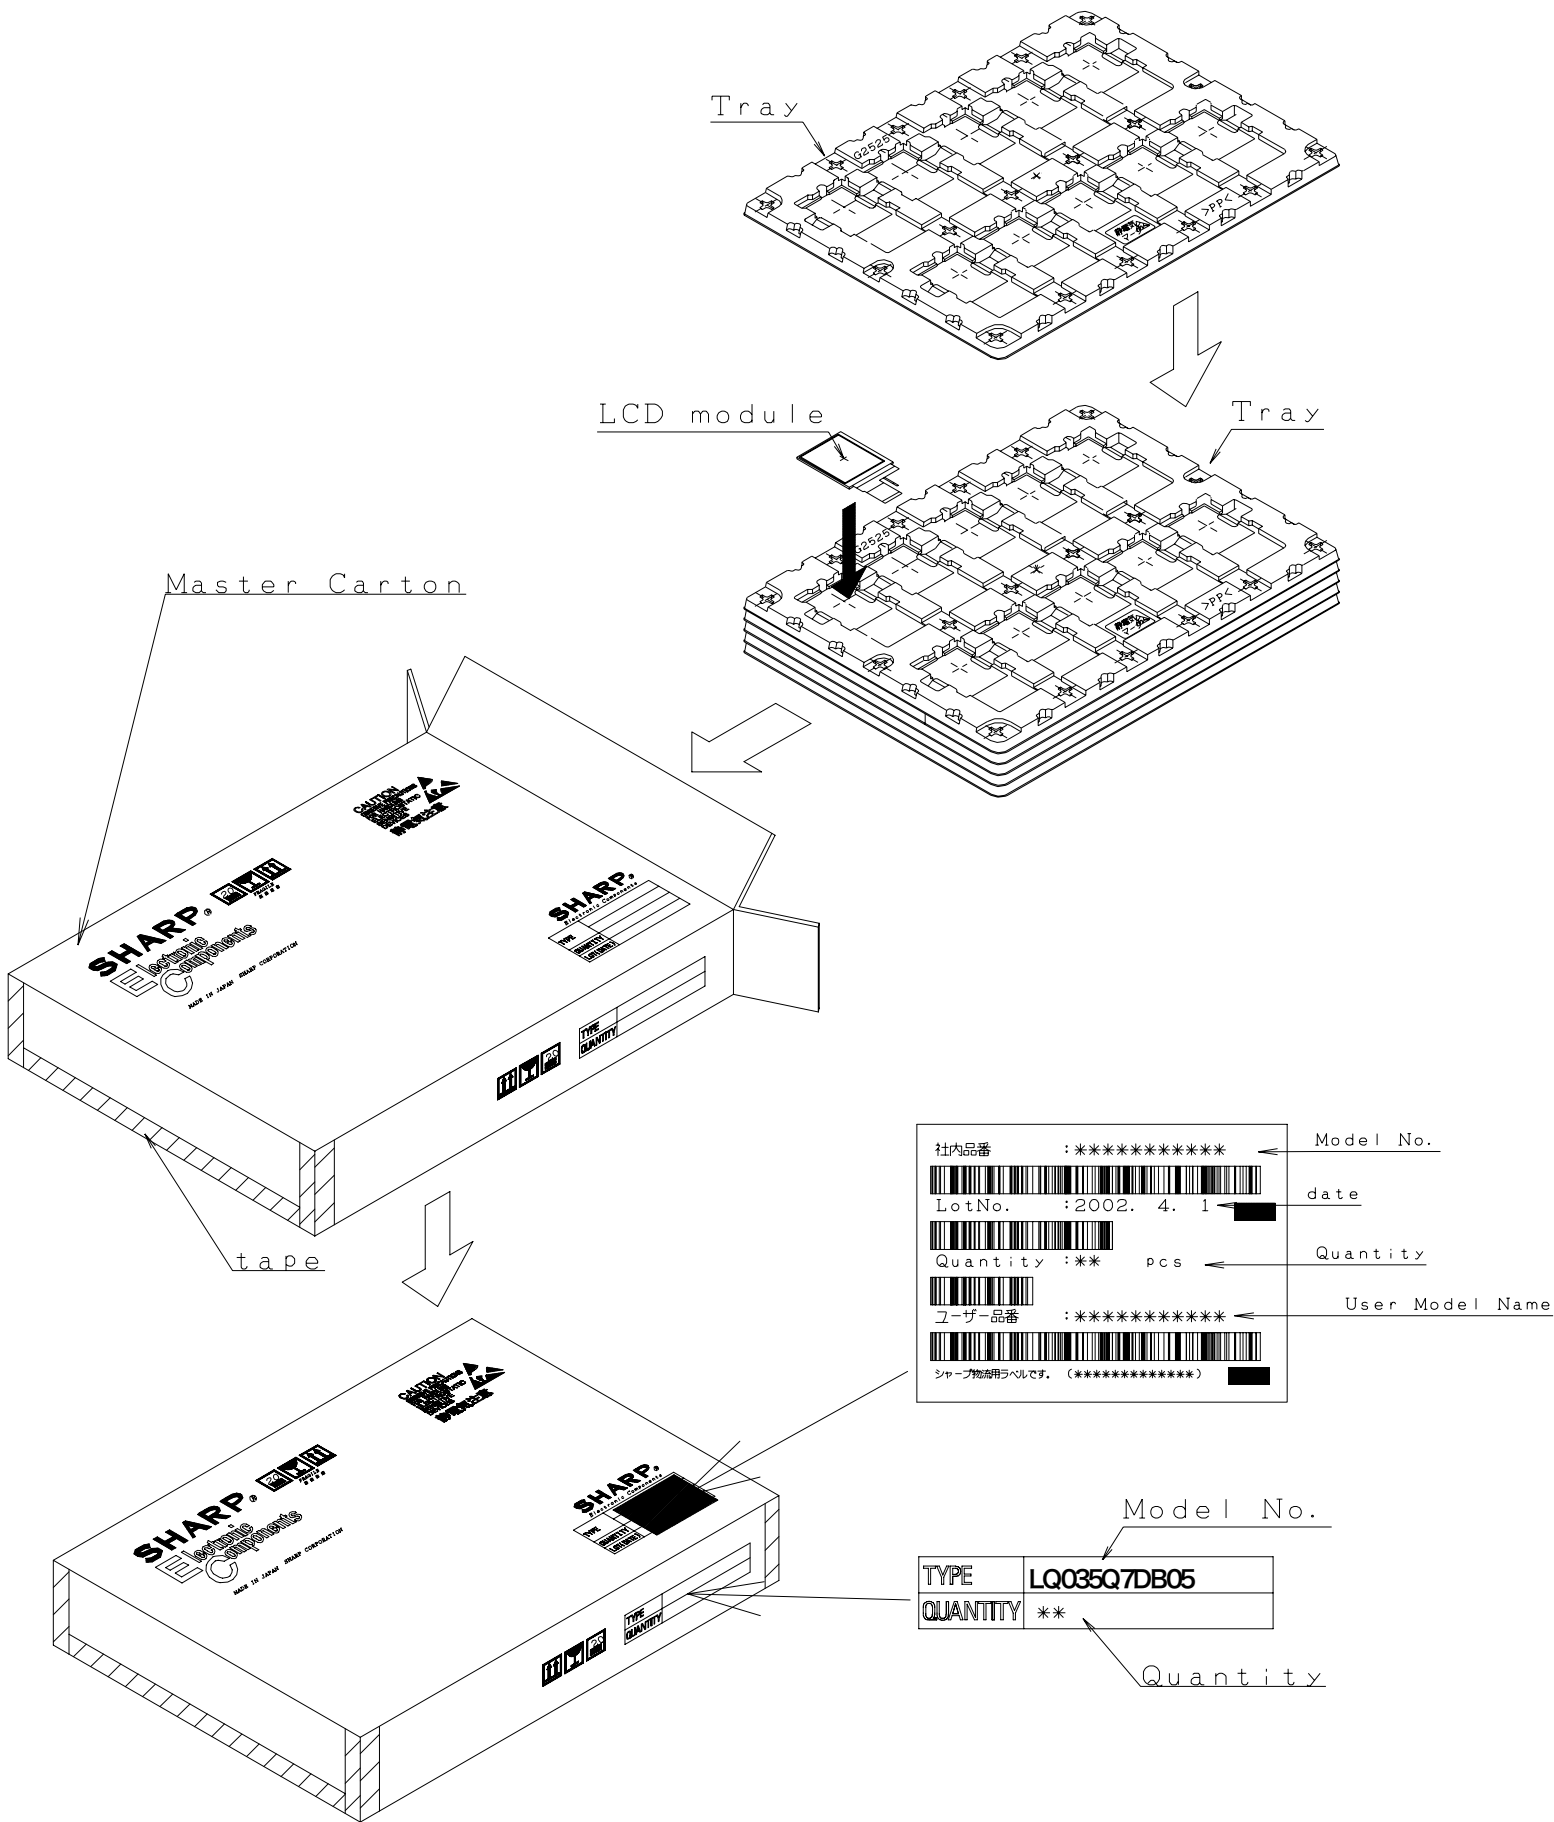

Fig.2 Forwarding Form
15) Forwarding form (see Fig.2 Package Form)